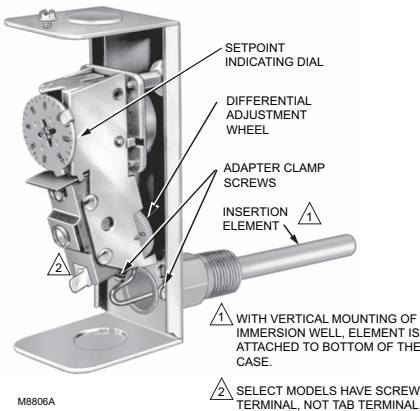

Fig. 2. Internal view of L6006A,B (L6006C and L6007 are similar in appearance).
5. Loosen screw (at top of case, above scale setting), and remove cover. Loosen two screws that secure adapter clamp. See Fig. 2.